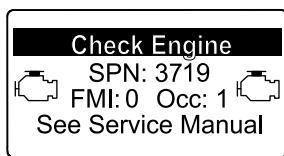

Figura 85
- Engine warning (Avertisment motor) SPN 3719, FMI 0 (Figura 85)